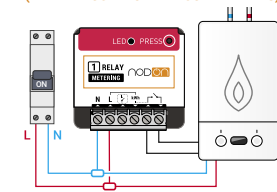

Figure 3
- Wired the Zigbee Multifunction Relay Switch with metering, in parallel to the push-button following the diagram figure 3.